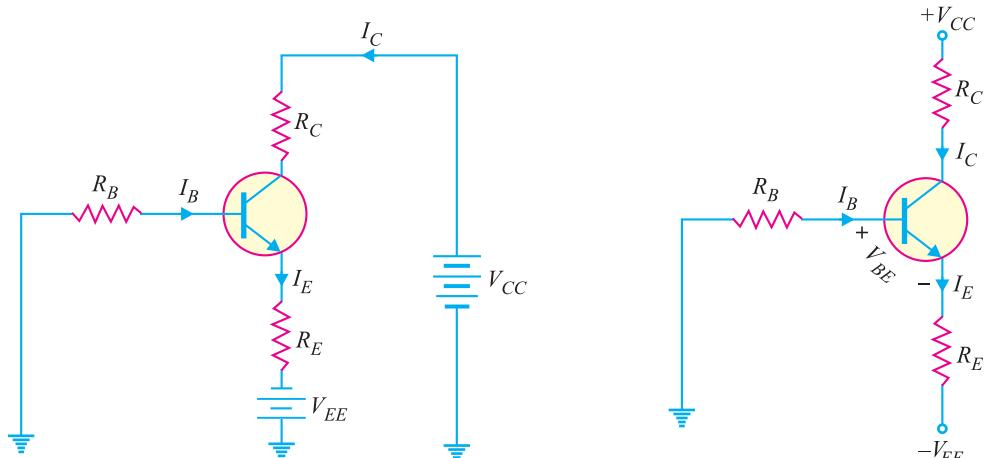
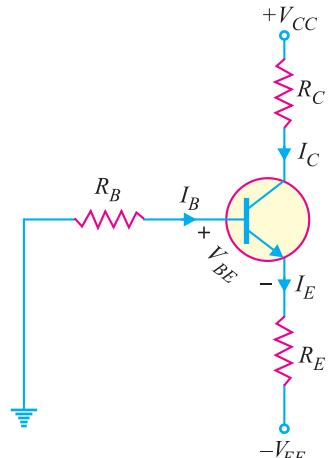

Fig. 9.15
Fig. 9.16
Fig. 9.15 shows the emitter bias circuit. This circuit differs from base-bias circuit in two important respects. First, it uses two separate d.c. voltage sources ; one positive ( $+ V_{CC}$ ) and the other negative ( $- V_{EE}$ ). Normally, the two supply voltages will be equal. For example, if  $V_{CC} = + 20\text{V}$  (d.c.), then  $V_{EE} = - 20\text{V}$  (d.c.). Secondly, there is a resistor  $R_E$  in the emitter circuit.
We shall first redraw the circuit in Fig. 9.15 as it usually appears on schematic diagrams. This means deleting the battery symbols as shown in Fig. 9.16. All the information is still (See Fig. 9.16) on the diagram except that it is in condensed form. That is a negative supply voltage  $- V_{EE}$  is applied to the bottom of  $R_E$  and a positive voltage of  $+ V_{CC}$  to the top of  $R_C$ .
Fig. 9.16 shows the emitter bias circuit. We shall find the Q-point values (*i.e.* d.c.  $I_C$  and d.c.  $V_{CE}$ ) for this circuit.
(i) **Collector current ( $I_C$ )**. Applying Kirchhoff's voltage law to the base-emitter circuit in Fig. 9.16, we have,
**Alternatively.** Applying Kirchhoff's voltage law to the collector side of the emitter bias circuit in Fig. 9.16 (Refer back), we have,